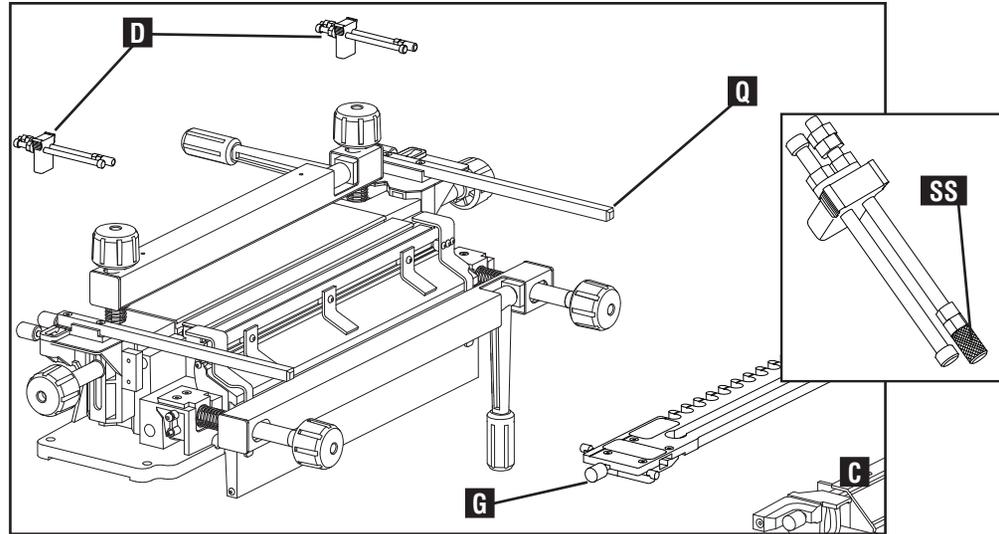

Fig. H6
1. Insert C2 left and right stops (D) Fig. H6. Ensure that the spacers (SS) on both stops are positioned on the front of both stops as in Fig H6 (inset). Each spacer should be finger tightened to ensure it is positioned correctly.
2. Ensure that the template guide rods (Q) are raised above the base before mounting the template (G).
11. Add stabilizer bar (C) Fig. H6.
13. Loosen and pull the stabilizer bar and template toward you along the template mounting rods (Q) Fig. H6, just enough to allow you to reposition the spacer on the template stops at the back of the jig.